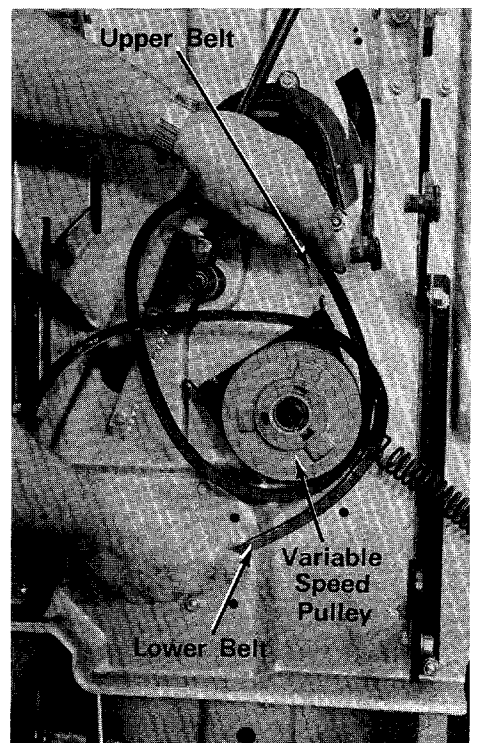

Figure 28
- 6 Remove the lower belt from the variable speed pulley. (See figure 28.)